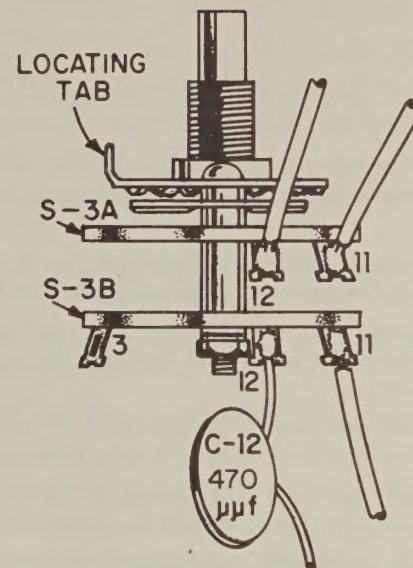

FIGURE 10. PREWIRING S-3
SEE FIGURE 10.
- ☐ S-3, 2-wafer switch. Position the switch with the terminals and locating tab as shown in Figure 10.